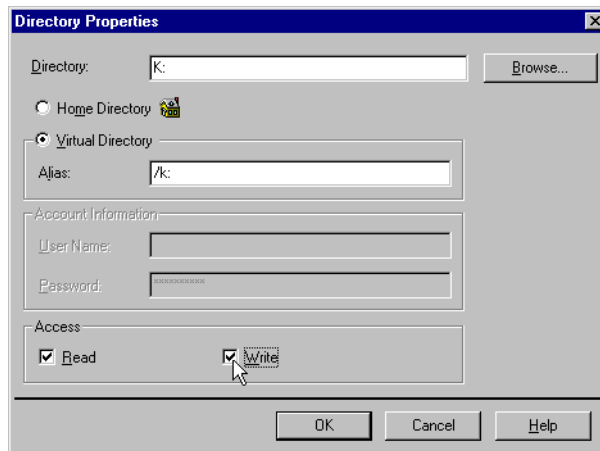

Figure 50. Configuring FTP Directory Properties on the Deployment Server
- h. If the drive on which OneWorld is going to be installed does not appear, click **Add** to see a display similar to the example in Figure 50.